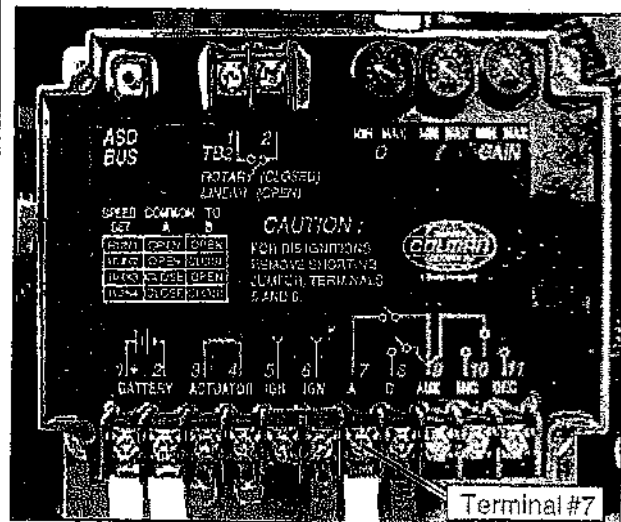

Figure 3
9. Route the unattached end (fork connector) of the newly installed Red/Black Wire Assembly with Diode (#030948-001) through the protective plastic cover to the Barber Coleman governor control and attach to #7 terminal. Do not remove the existing wire. See Figure 3 and 5.